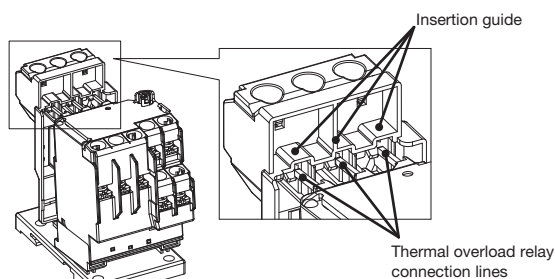

Fig. 1
- [2] Insert the connecting wires of the thermal overload relay along the insertion guide of the separate mounting unit (see Fig. 1).